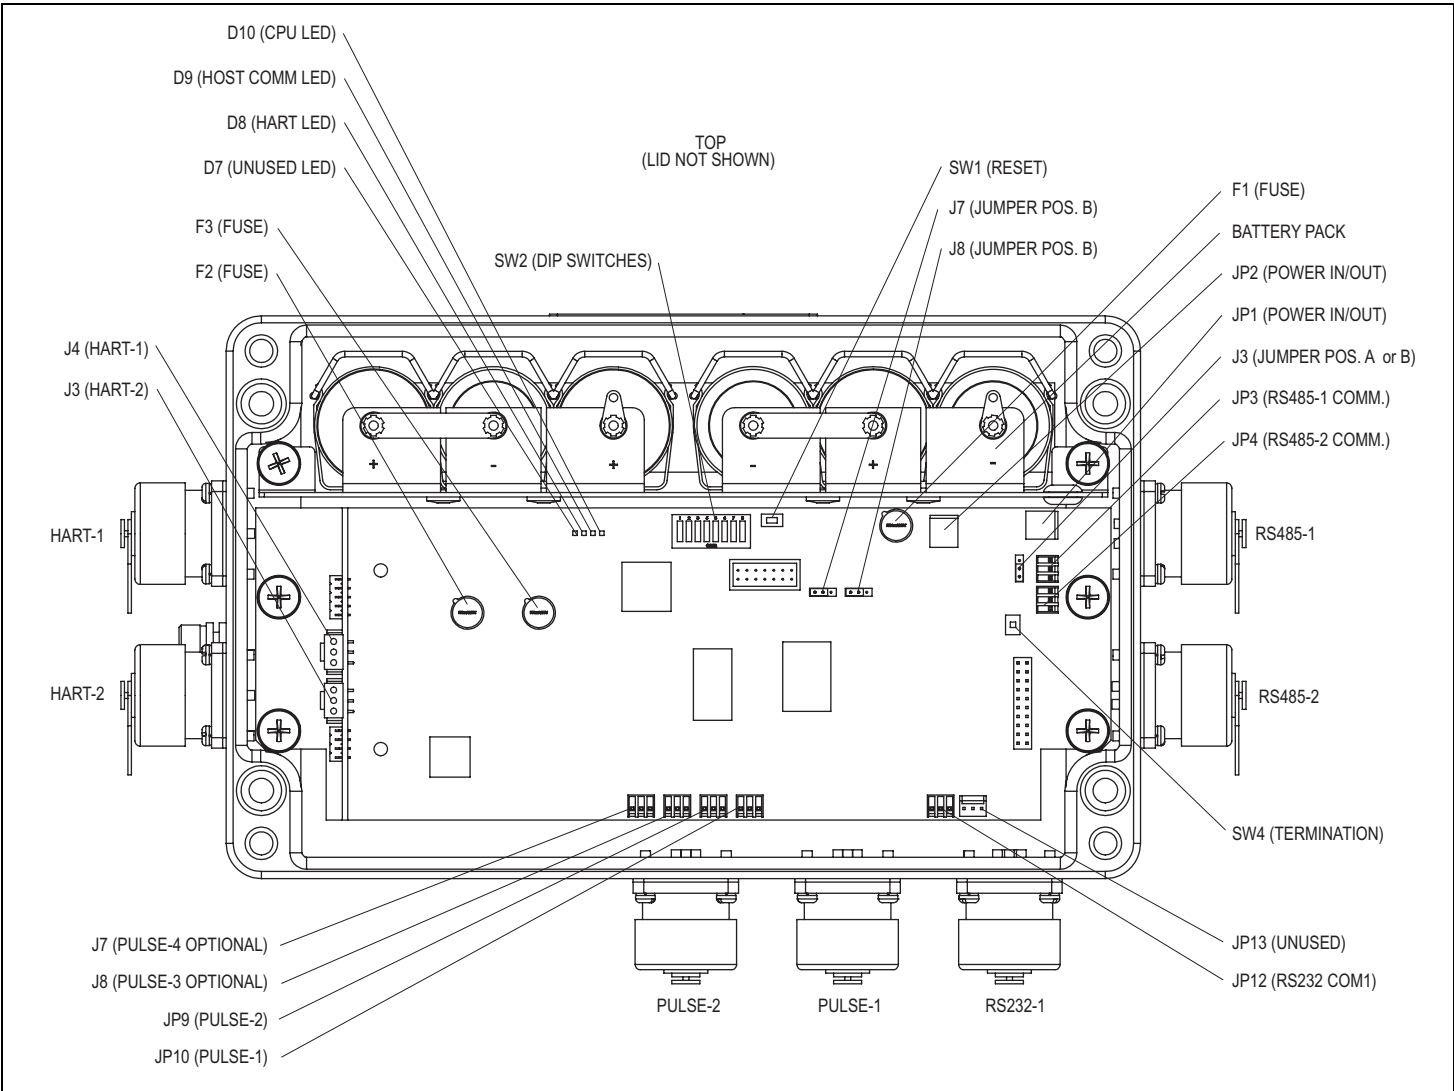
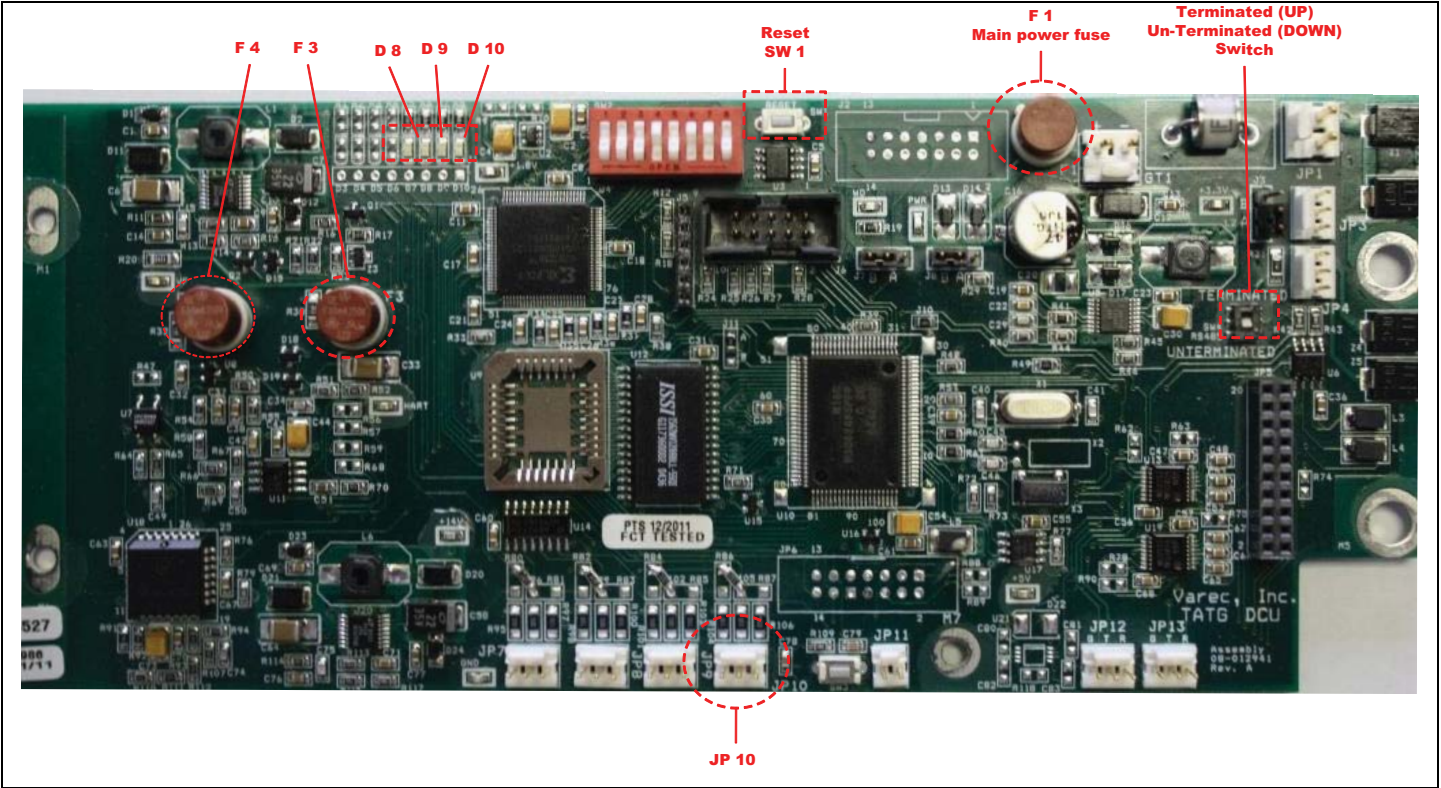

Figure 3-1: 8240 TDU – Internal Wiring
Figure 3-2: 8240 TDU Main Board Layout
This section lists the three (3) possible ways to power the TDU. It also describes how to connect them to the power connections on the vertical intrinsically safe (I.S.) board. Please reference Figure 3-1 on page 25 for the major components discussed in this section.
This section lists the different communication protocols used with the TDU. It also describes how to connect them to the communication connectors on the vertical I.S. board. Please reference Figure 3-1 on page 25 for the major components discussed in this section.
This section lists three (3) different switches used to reset, control the power, and conserve power using DIP switches, etc. on the TDU. It also describes how to set them on the vertical I.S. board. Please reference Figure 3-1 on page 25 and Figure 3-2 on page 29 for the major components discussed in this section.